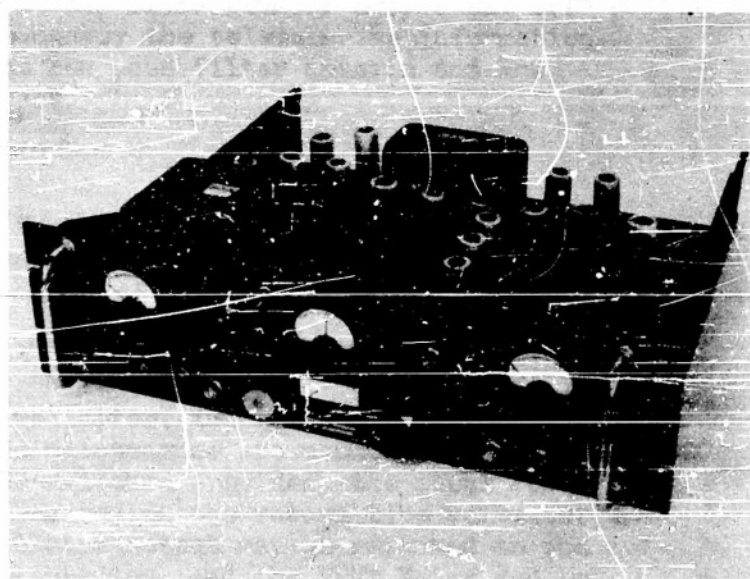

Figure 8 - Pulse Averaging Discriminator
2.5 Discriminator See Figure 8
2.6 Discriminator Tuning Unit See Figure 8